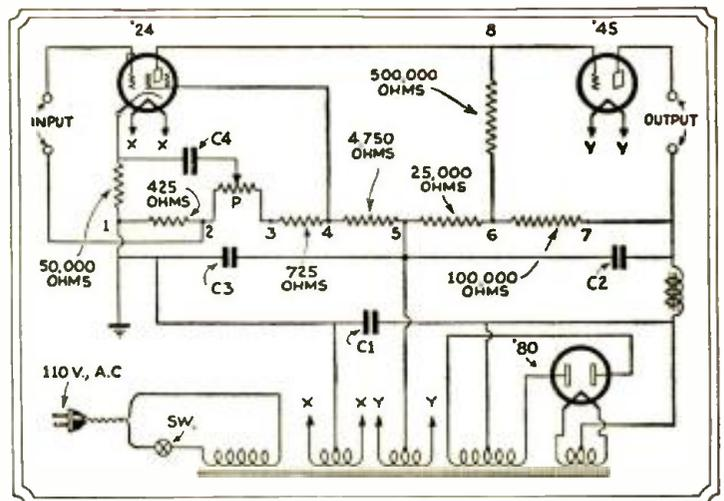

Fig. 1
**T**HE "direct-coupled" or Loftin-White type of audio amplifier, because of its low cost and high efficiency, enjoys widespread popularity with set builders, experimenters and manufacturers. Thousands of these are in use as phonograph amplifiers, speech amplifiers, and audio amplifiers for midget sets. The circuit is a radical departure from ordinary design, and presents a difficult job to the set builder or Service Man who is up against a balky specimen for the first time. With the desire to aid those who have had such difficulties, the experience of many months in building and servicing these amplifiers has been set down in these notes. One circuit, to which we will refer in this article, is shown in Fig. 1; others have appeared in past issues of RADIO-CRAFT.
When the amplifier is assembled and found to be inoperative, or when a good amplifier becomes inoperative, a particular service procedure should be followed. (All the tests in this procedure may be made with but one instrument, a 0-300-volt ohmmeter with a resistance of 1000 ohms per volt.) These directions apply specifically to the '45 amplifier shown in Fig. 1, but may be used with suitable changes for pentode or '50 Loftin-White amplifiers.
If the amplifier is absolutely dead, check the loud-speaker and the speaker transformer. If these are in good condition, the trouble lies in condenser C2 or the '45 filament winding of the power transformer. Measure the voltage between points 5 and 7 of Fig. 1, and between points 1 and 5. If the former voltage is very low, or even zero, while the latter is abnormally high (see "Normal Voltages," below) this is an indication of a grounded '45 filament winding or a shorted or leaky by-pass condenser C2. The fault may be traced by disconnecting the leads from the '45 filament winding and testing for a short to ground. If this is the case, the transformer should be replaced. If the transformer checks O.K., the resistance of condenser C2 should be measured. If it is found to be shorted or leaky, it should be replaced.